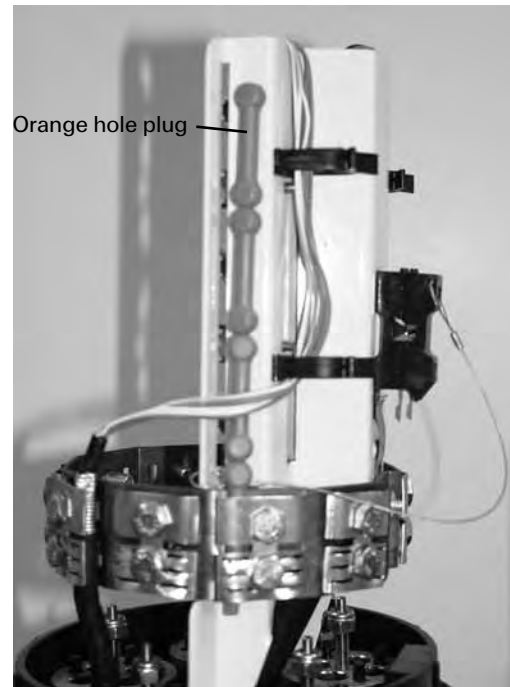

Figure 11
9. Route the conductors through the routing rings on the back of the Dat@Term terminal block. (Figure 11)